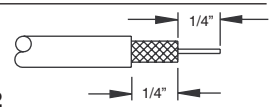

FIGURE 2
4. Pull tool from cable to complete the cable preparation. Cable end should appear as shown (Figure 2).